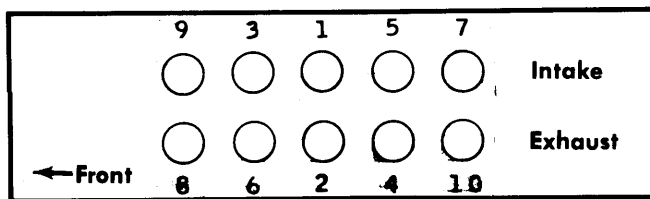

Fig. 2. Cylinder Head Bolt Tightening Sequence
3) Position cylinder head and gasket on cylinder block. Apply Loctite (or equivalent) to all new bolts. Install new bolts and washers. Tighten bolts in 4 steps as follows: Torque all bolts to first specification, then retorque all bolts to second specification. Rotate all bolts clockwise an additional 180° in steps of 90° each. All steps are made in sequence shown in Fig. 2. Reverse removal procedure to complete installation.